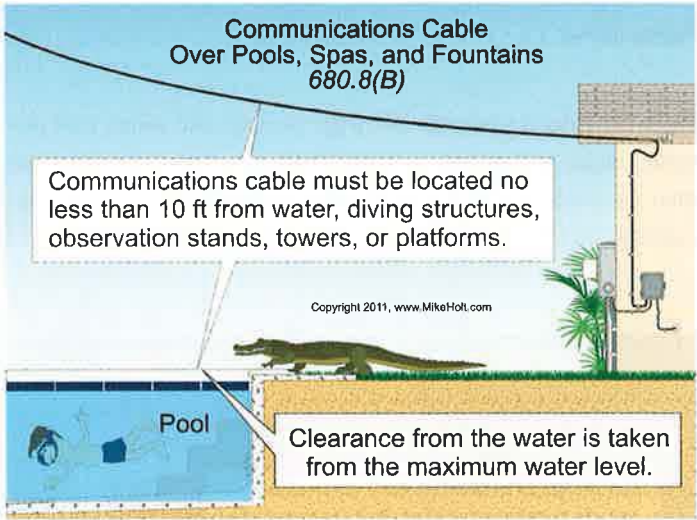

Figure 680-5
(B) Communications Systems. Permanently installed pools, storable pools, outdoor spas, outdoor hot tubs, fountains, diving structures, observation stands, towers, or platforms must not be placed under, or within, 10 ft of communications cables. **Figure 680-5**